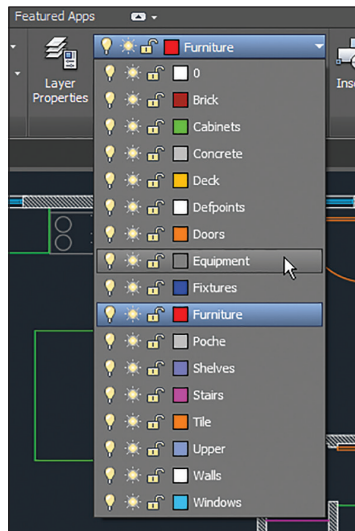

FIGURE 2.19 Making the Equipment layer current
2. On the Home tab, take a look at the Layer drop-down menu in the Layers panel and observe that Furniture is the current layer (because you see its name without having to open the drop-down). Open the Layer drop-down menu and select Equipment as the current layer (see Figure 2.19).